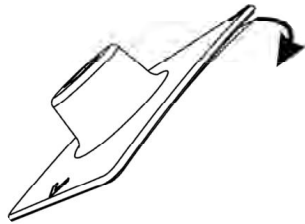

Fig 12
- 11.** Remove the protective backing from the Adhesive Pedestals and install on the hood surface. (Fig 12)